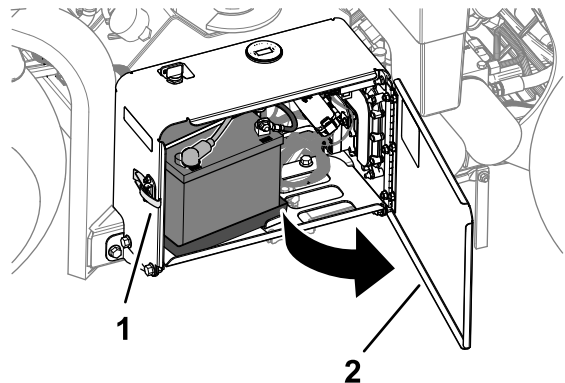

Figure 160
1. Unlatch and open the battery-compartment door (Figure 160).